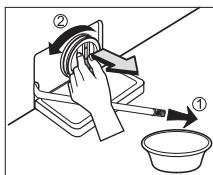

Fig. 12
- Carefully unscrew the coin-trap cover. **Warning: Some residual water will flow out. (Approx. 1 Cup)** (Fig. 12)